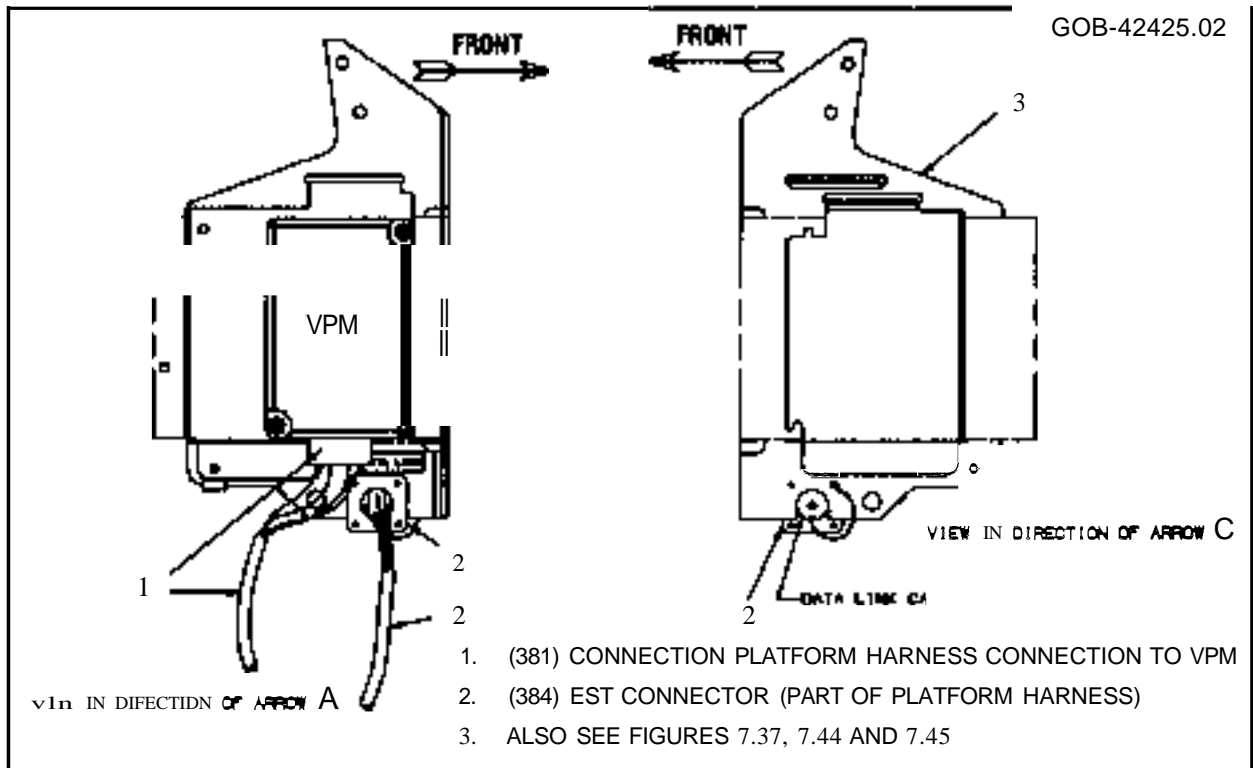

Figure 7.38 - EST (Data Link) and VPM Connections
| 1. CIR 14, BATTERY FEED TO J1 FEED STUD, CONNECTS TO THE ENGINE HARNESS | 17. ECM/IDMNP ASSY - SEE FIGURES 7.38, 7.44 AND 7.45 |
| 2. (382) ACCELERATOR PEDAL SENSOR (APS/IVS) CONNECTS TO CAB HARNESS | 18. (384) EST (DATA) LINK CONNECTOR IS ATTACHED TO MODULE BRACKET - FIGURE 7.38 |
| 6. (406) BAROMETRIC AIR PRESSURE SENSOR (BARO) | 22. (381) CONNECTS PLATFORM HARNESS TO VPM - FIGURE 7.38 |